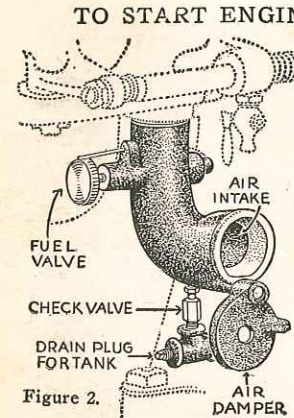
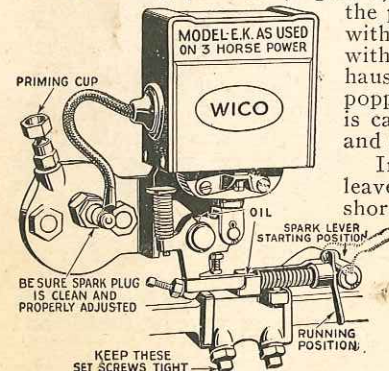

Figure 2.
Figure 4.
**Figure 2.** Open the fuel valve on mixer two full turns to the left and turn the air damper (Figure 2) up so it closes the opening in the mixer, turn on the oil by raising the lever on the lubricator and be sure the oil is dropping properly.
**Second.** Turn the spark lever up to the starting position, as shown in Figure 4. This retards the spark and prevents the engine from kicking back when you start it.
**Fifth.** As soon as engine starts, turn the air damper down to position as shown in Figure 2, push the spark lever down to the running position (Figure 4) and close the fuel valve slowly until the point is reached where the engine runs with the least number of explosions and without black smoke appearing at the exhaust or a popping sound at the mixer. A popping sound at the mouth of the mixer is caused by an insufficient supply of fuel, and smoke at the exhaust by too much fuel.